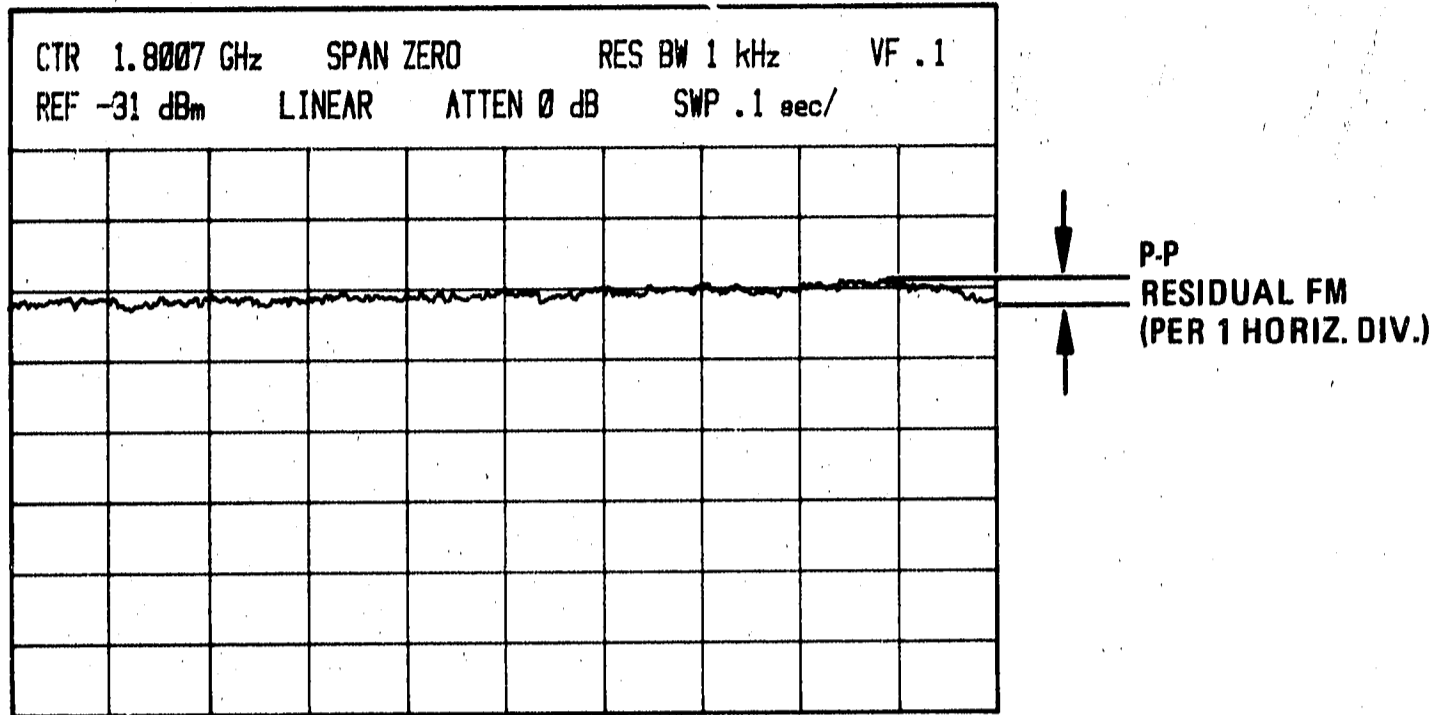

Figure 4-9. Residual FM Display
8. Set SWEEP TRIGGER to SINGLE. Press START/RESET pushbutton to display one sweep as shown in Figure 4-9. Set TRACE A to STORE VIEW. The maximum peak-to-peak variation should not exceed the test limit calculated in step 6 for each horizontal division (since SWEEP TIME/DIV is .1 SEC and residual FM is specified in a time interval of 0.1 second).
16. Set SWEEP TRIGGER to SINGLE. Press START/RESET pushbutton to display one sweep as shown in Figure 4-9. The maximum peak-to-peak variation should not exceed the test limit calculated in step 14.